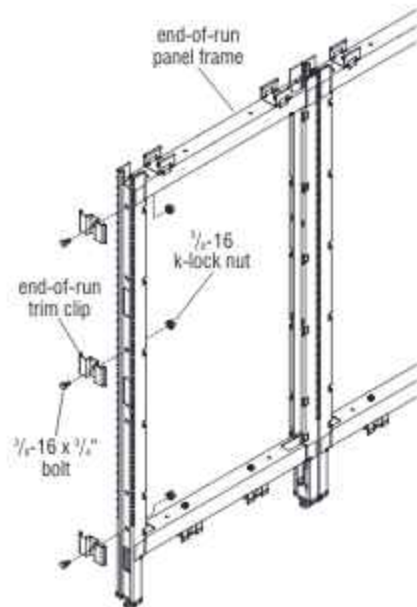

Figure 16 - End-of-Run Trim Clip Installation
- End-of run trim clips attach to the frame using a  $\frac{1}{8}$ -16 x  $\frac{3}{4}$ " hex head bolt and  $\frac{1}{8}$ -16 k-lock nut. All end-of-run frames, except the shortest 32" high frame will require three clips installed (see End-of-Run Trim Clip Charts). Attach one end-of-run clip at the lowest mounting hole in the frame, one clip at the highest, and the third end-of-run clip approximately 30" from the floor, near beltway height (Figure 16).